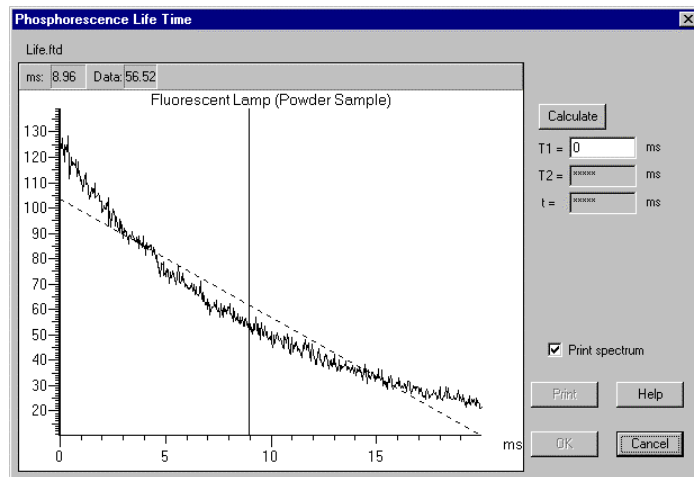

Fig. 3-15
This is the function for calculating phosphorescence life from the measurement result (phosphorescence attenuation curve). Replacing data value at T1 with I_0 , $I_{0/e}$ time (T2) is found, and T1, T2 and τ (phosphorescence life) = T2 - T1 are displayed. Select the phosphorescence life command from the data (D) menu or click the  button on the Processing toolbar. A window as in Fig. 3-15 will appear.